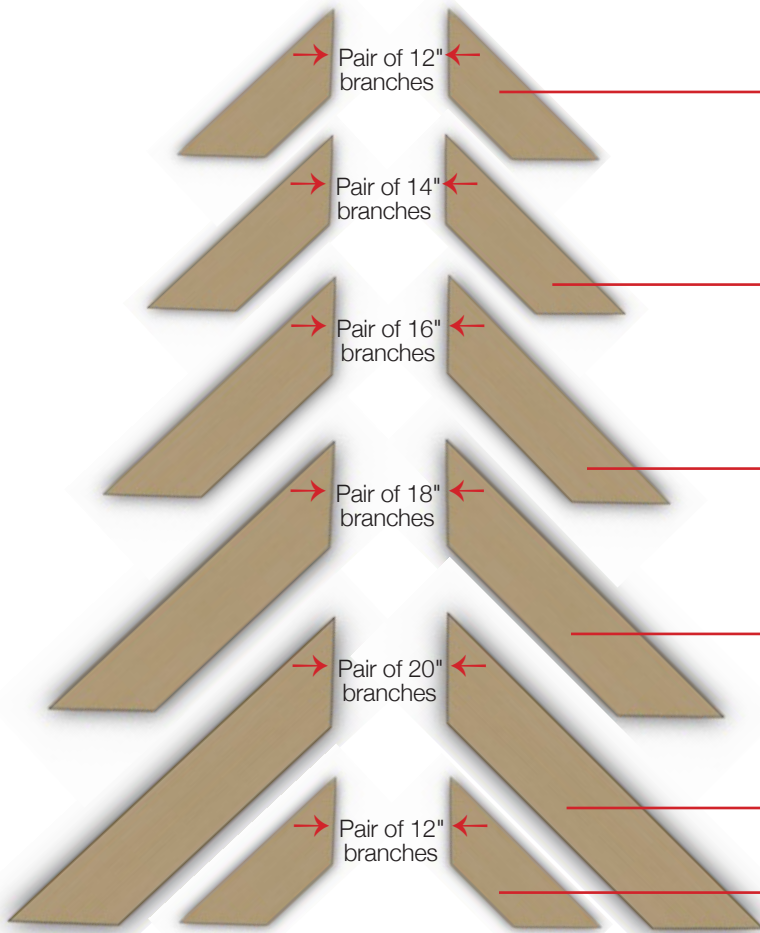

Fig. 1
- Divide the (12) branch pieces into (6) matched pairs and lay them out as seen in Fig. 1.
- 6 – 2-piece branch assemblies (Fig. 1)